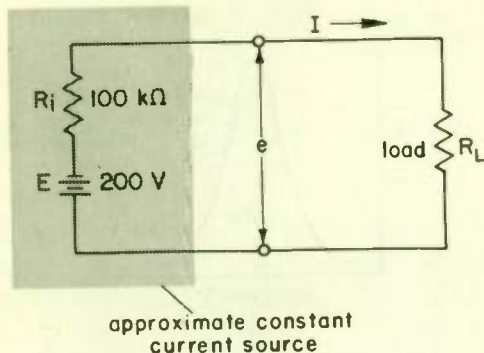
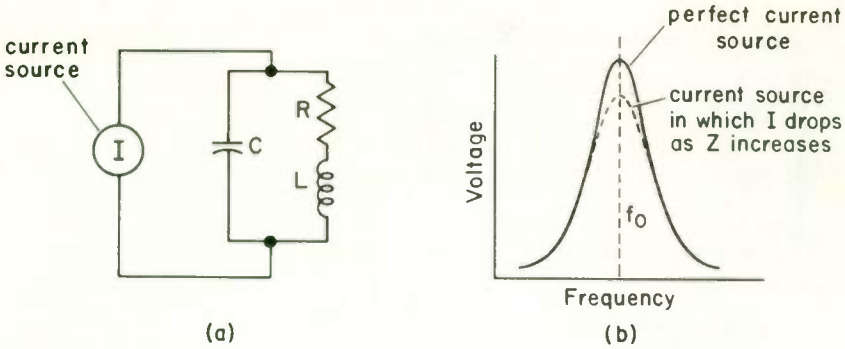

Fig. 24 An approximate constant-current source with load.
Fig. 25 A parallel resonant circuit across a current source will not tune sharply if the current goes down when load impedance increases.
14 APPROXIMATE CURRENT SOURCES... A high resistance in series with a constant voltage forms an approximate constant-current source. If E in Fig. 24 is constant and the load R_L is a varying value but always much less in resistance than R_i , the current I is approximately constant. Problems 1 and 2 at the end of this topic show you that this is true. As long as R_i is much larger than R_L , the resistance of R_L is such a small part of the total resistance that it doesn't affect the current much.
If R_L is so large—say, 20,000 Ω or over in Fig. 24—that it is a substantial part of the total resistance, then I will vary considerably with changes in R_L . ER_i is then a quite imperfect current source. As R_L increases, I goes down. Therefore, the voltage e rises less as R_L increases than it would if the current stayed constant. How this affects the tuning of a parallel resonant circuit is shown in Fig. 25. As the dashed curve in (b) shows, the circuit will not tune as sharply if the current source does not hold its current output constant.
Looking once more at Fig. 24, if R_i were changed to a low value, so that the R_L were high compared to R_i , then the voltage across the load R_L would stay fairly constant. Hence, the difference between a voltage and current source is a matter of whether R_i is high or low compared to the load resistance. High-impedance sources are generally current sources, and low-impedance sources are generally voltage sources.
1. Refer to Fig. 24. When R_L is 10 k Ω , I is (a) _____ milliamperes. If R_L is 5 k Ω , the circuit current will be (b) _____ milliamperes.
3. Refer to Fig. 24. Assume R_i is $10\ \Omega$ and R_L is $10\ \text{k}\Omega$. Find (a) I and (b) the voltage across the resistor, E_{R_L} . If R_L is increased to $15\ \text{k}\Omega$, find (c) I and (d) E_{R_L} .
5. If R_i in Fig. 24 is the internal impedance of the power supply, the power supply is a constant (a) (voltage) (current) source if R_L is large compared to R_i . The power supply is a (b) _____ source if R_i is large compared to R_L .
6. Refer to Fig. 25. If the impedance of the LCR circuit is equal to one-half the internal impedance of the current source, the LCR circuit (a) (will) (will not) tune sharply. This means that the voltage, at resonance, across the circuit will be less than if the LCR circuit impedance were much (b) _____. The current source (c) (is) (is not) a good constant-current device.
- 6. (a) Will not . . . See Fig. 25. (b) Lower (c) Is not